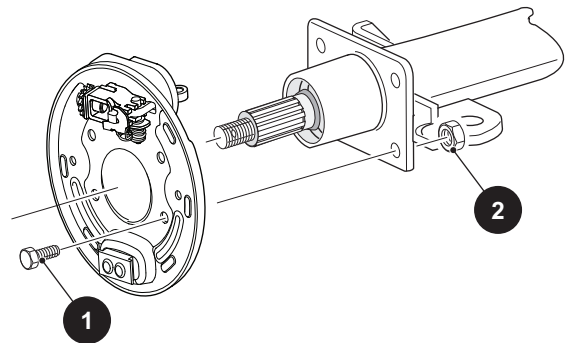

Figure 22 Backing Plate Removal and Installation
11. Remove the four bolts (1) and lock nuts (2) securing the wheel brake backing plate to the flange on the axle tube (Figure 22).